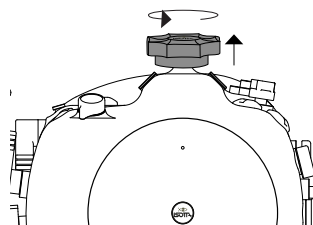

Figure 1
- Lift the locking knob upwards to release the safety; (fig. 1)